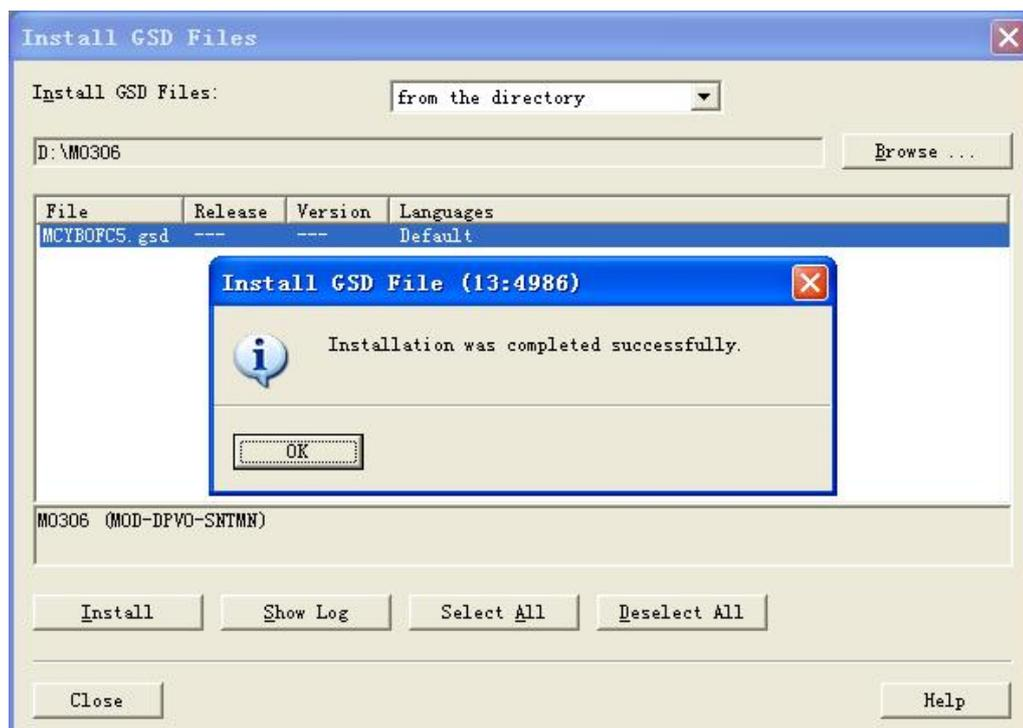

Figure 4.2 Correctly Installed Devices
2) Click “Browse...” and choose the path for GSD file. It will list all the GSD files in the present path, choose the GSD file MCYBOFC5.gsd and click “Install”. Keep clicking “Yes”, until Figure 4.2 is shown: